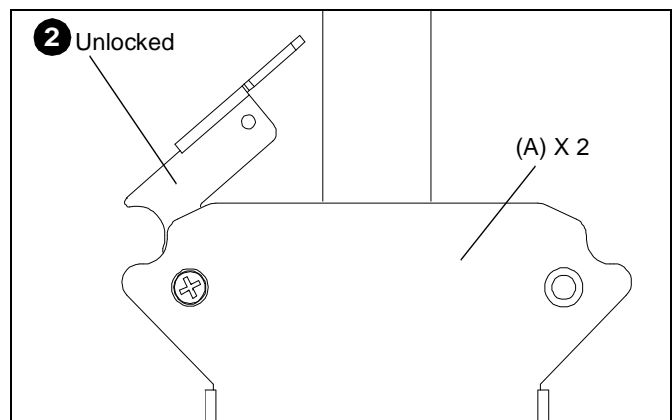

Figure 6
1. Install FSB interface bracket (F) using the instructions and hardware provided with the interface bracket kit.
2. Make sure both latching flags on FDP are in the unlocked position. (See Figure 6)